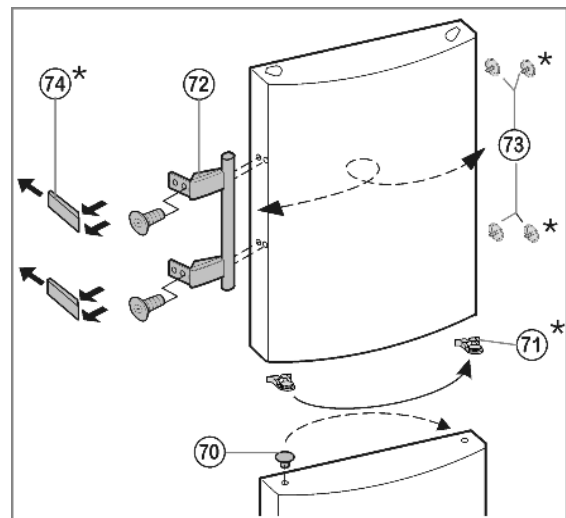

Fig. 10
- ▶ **On the bottom door:** Lift the stopper *Fig. 10 (70)* out of the door bearing bush and transfer it.
- ▶ **On both doors:** Detach door handle *Fig. 10 (72)*, stopper *Fig. 10 (73)* and pressure plates *Fig. 10 (74)* and transfer to the opposite side.